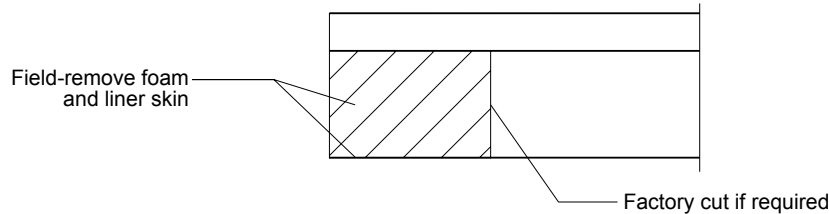

Figure 11
18.6 All Weather Insulated Panels that incorporate end laps will arrive at the job site with the foam and liner face in place. The liner face of the upper course panel will have a factory saw cut 3" to 6" from the end of the panel (see figure 11, below). Remove the metal and foam at the end of the panel. Carefully remove any foam that remains on the metal skin to ensure a positive air and water infiltration seal.